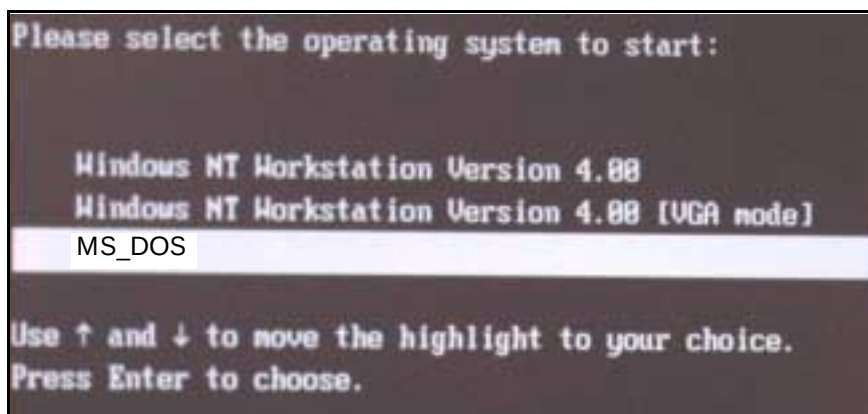

Figure 4-3 NT Boot loader window
2. Using keyboard up/down arrows, select **MS-DOS** (as shown in Figure 4-3).